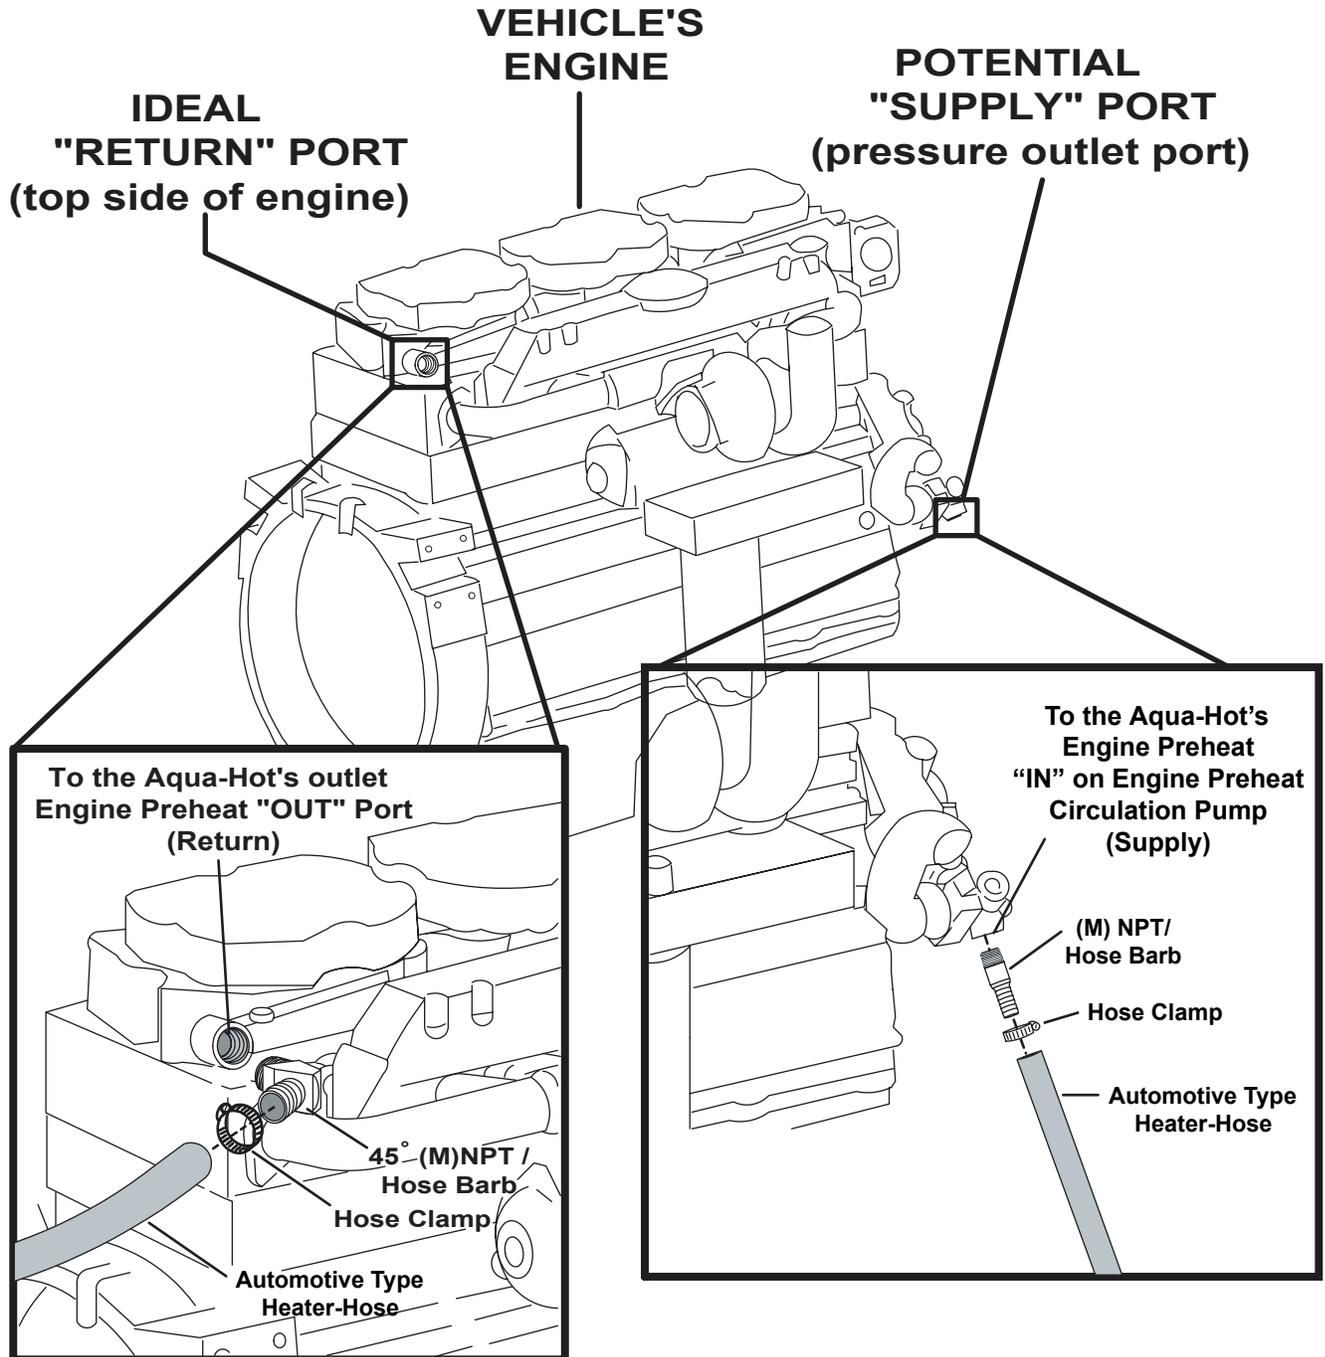

Figure 17
- A. The **Supply** and **Return** ports on the vehicle’s engine should be kept as far apart as possible. This will ensure that the entire engine is thoroughly preheated; reference Figure 17. If assistance is needed in determining the best **Supply** and **Return** ports for a specific engine, please contact Vehicle Systems’ Product Application Support Department at 1-800-685-4298 or contact the specific Engine’s Manufacturer.
2. The engine’s **Return** port returns the heated coolant to the Engine Block from the Aqua-Hot. This port should be a **high** connection point on the Engine Block or a suction port on the engine’s Water Pump; reference Figure 17.
3. The engine’s **Supply** port supplies the engine’s coolant to the Aqua-Hot’s Engine Preheat Circulation Pump. This port should be a **low** connection point on the Engine Block or a **pressure outlet port** on the Engine’s Water Pump; reference Figure 17.
5. Install and clamp both the **Supply** and **Return** engine Plumbing Lines/Automotive Type Heater-Hoses to the Engine’s Plumbing Fittings; reference Figure 17.